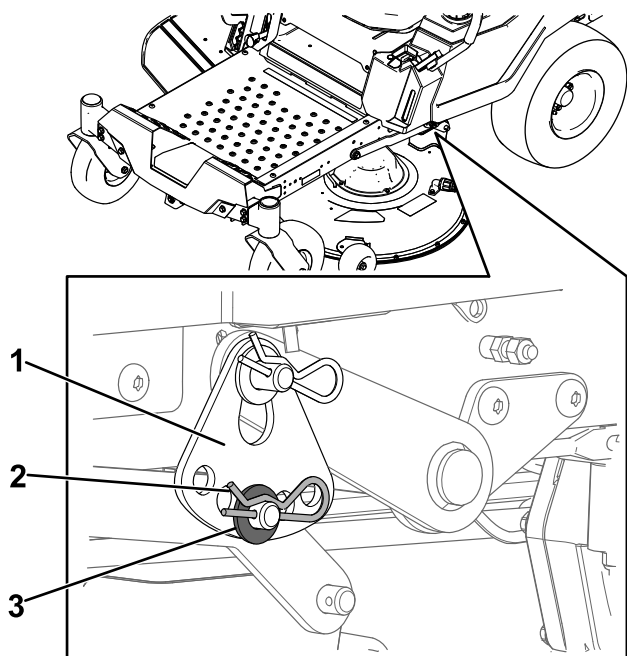

**Figure 59**
4. Place 2 blocks, each having a thickness of 6.6 cm (2-5/8 inches), under each side of the front edge of the deck but not under the anti-scalp roller brackets (Figure 59).
5. Place 2 blocks, each having a thickness of 7.3 cm (2-7/8 inches), under the rear edge of the cutting deck skirt, 1 on each side of the cutting deck (Figure 59).